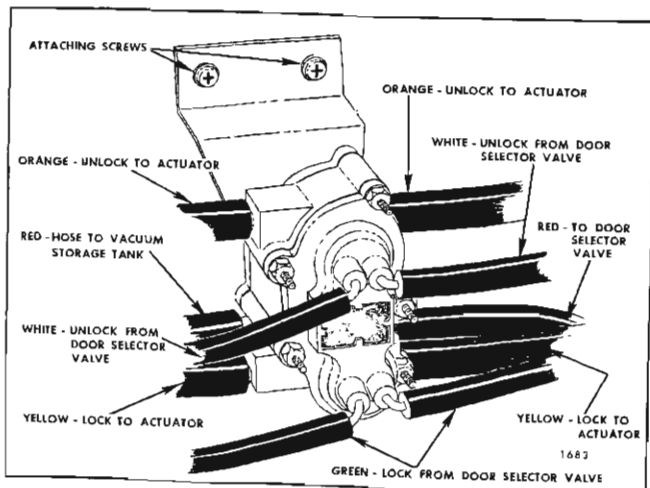

Fig. 1D50—Vacuum Lock Remote Control Valve
2. Carefully disconnect vacuum hoses from remote control valve assembly, Figure 1D50, and remove valve assembly from body.